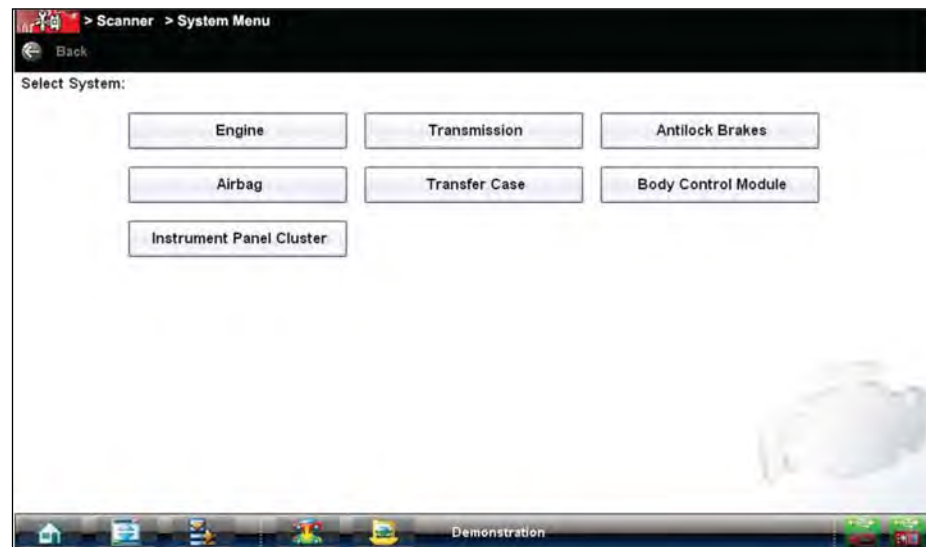

Figure 4-15 Systems menu
1. After the vehicle has been identified, a list of available systems for testing displays (Figure 4-15). Select a system to continue.